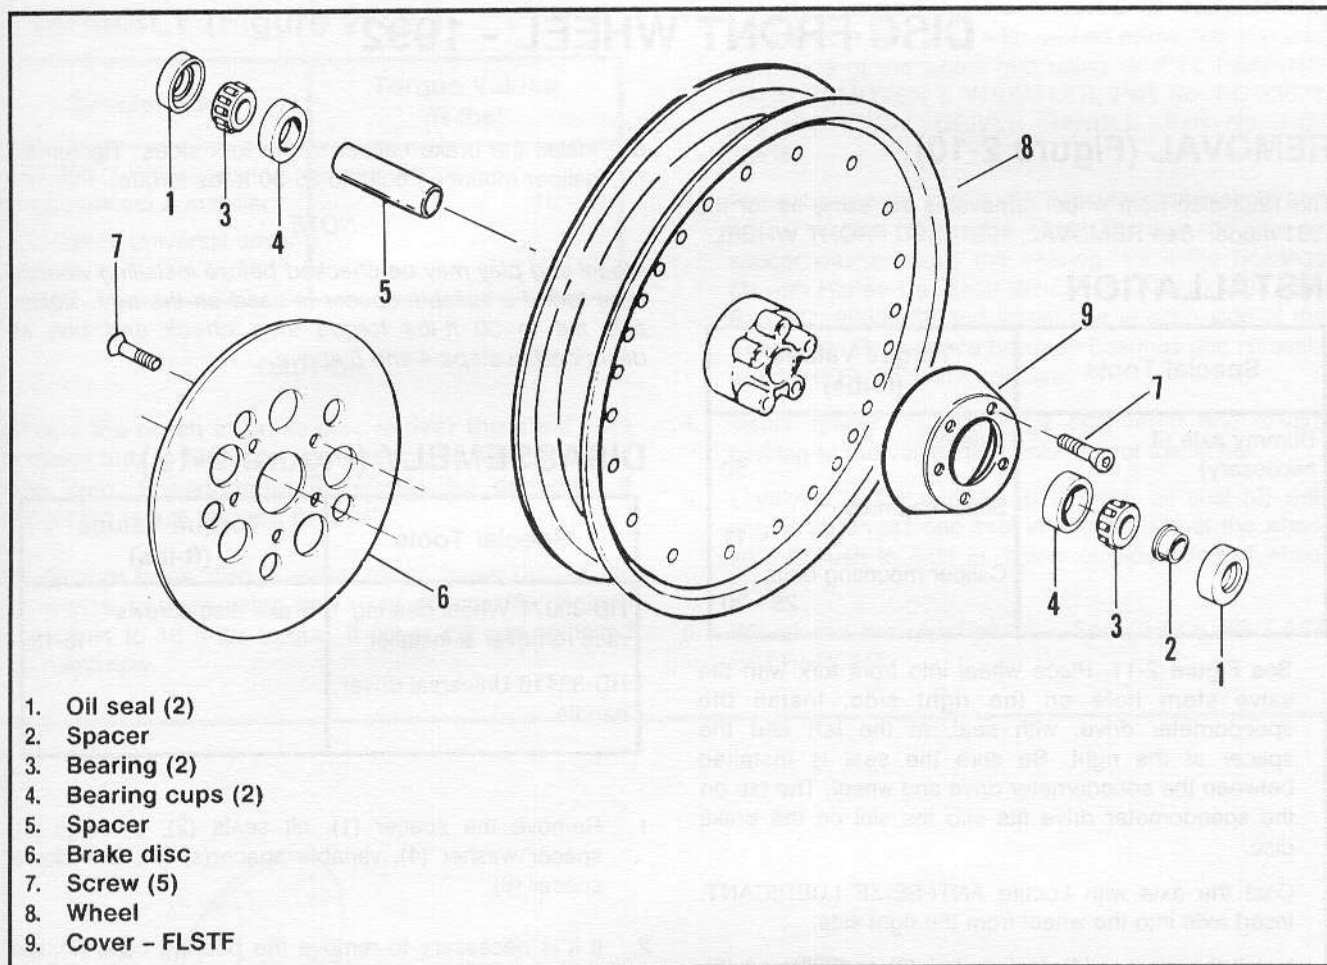

Figure 2-11. Front Wheel - Disc
REMOVAL (Figure 2-11)
1. See Figure 2-11. Place wheel between fork legs with spacer (2) facing to the motorcycle right side.
2. See Figure 2-11. Install axle through right fork leg, wheel, speedometer drive (7) and left fork leg. Secure the axle by installing washer (4), lockwasher (3) and axle nut (2). Tighten right side slider cap nuts (5) to prevent the axle from rotating. Tighten axle nut (2) to 50 ft-lbs torque. Loosen right side slider cap nuts (5), then tighten nuts (5) at both sides to 11 ft-lbs torque.
See Figure 2-11. End play should be checked after tightening axle nut to 50 ft-lbs torque and slider cap nuts to 11 ft-lbs torque. See Figure 2-4. Mount a magnetic base dial indicator to the brake disc with contact point on end of axle. If end play does not fall within this range, substitute a slightly longer or shorter spacer (5) as necessary. When correct end play has been obtained, tighten the axle nut in the exact sequence as given in the preceding procedure.
1. See Figure 2-11. Place wheel into front fork with the valve stem hole on the right side. Install the speedometer drive, with seal, at the left and the spacer at the right. Be sure the seal is installed between the speedometer drive and wheel. The tab on the speedometer drive fits into the slot on the brake disc.
3. Install the washer (4), lockwasher (3) and axle nut (2). Tighten the axle nut to 50 ft-lbs torque. Tighten the axle cap nuts to 5 - 11 ft-lbs torque.